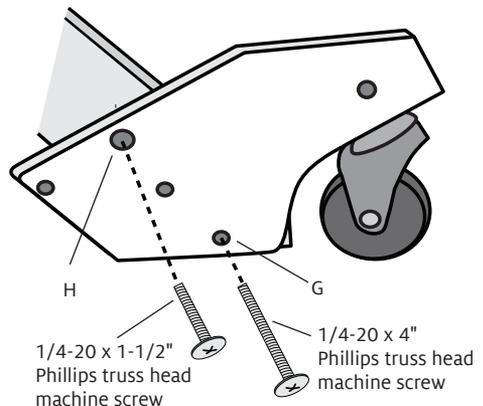

FIGURE 9: REAR CASTER BLOCK AND OUTSIDE LEG
8. Set a caster block on the outer side of an outside leg, with the caster wheel toward the back and the floor (Figure 9). Line up hole [G] at the bottom of the caster block to hole [B] in the outside leg. Insert a 1/4-20 x 4" Phillips truss head machine screw through the bottom hole [G] in a caster block, then through the bottom hole of an outside leg height extender block. Thread the machine screw into a barrel nut in the rear leg brace and tighten, using a slotted screwdriver to hold the barrel nut in
9. Insert a 1/4-20 x 1-1/2" Phillips truss head machine screw into the top hole [H] of a caster block (Figure 9). The screw will thread into an insert in the height extender block that you cannot see; fasten securely. Repeat for the other outside leg height extender block.